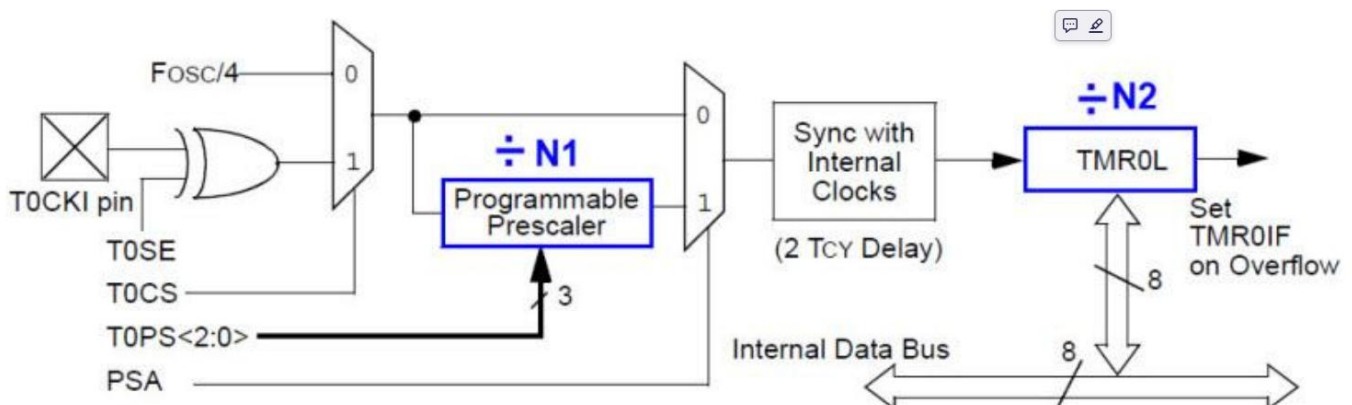

Fig. 4. TMR0 hardware from Microchip.
4. Fig. 4 shows the main hardware blocks of the TMR0 peripheral to be used in the second step to replace the external **CLK** signal and be able to set different time slots for each colour combination. Explain how to use it along with a software post-scaler RAM variable (**N3**) to generate, for instance, a delay of 1 minute for the green light.